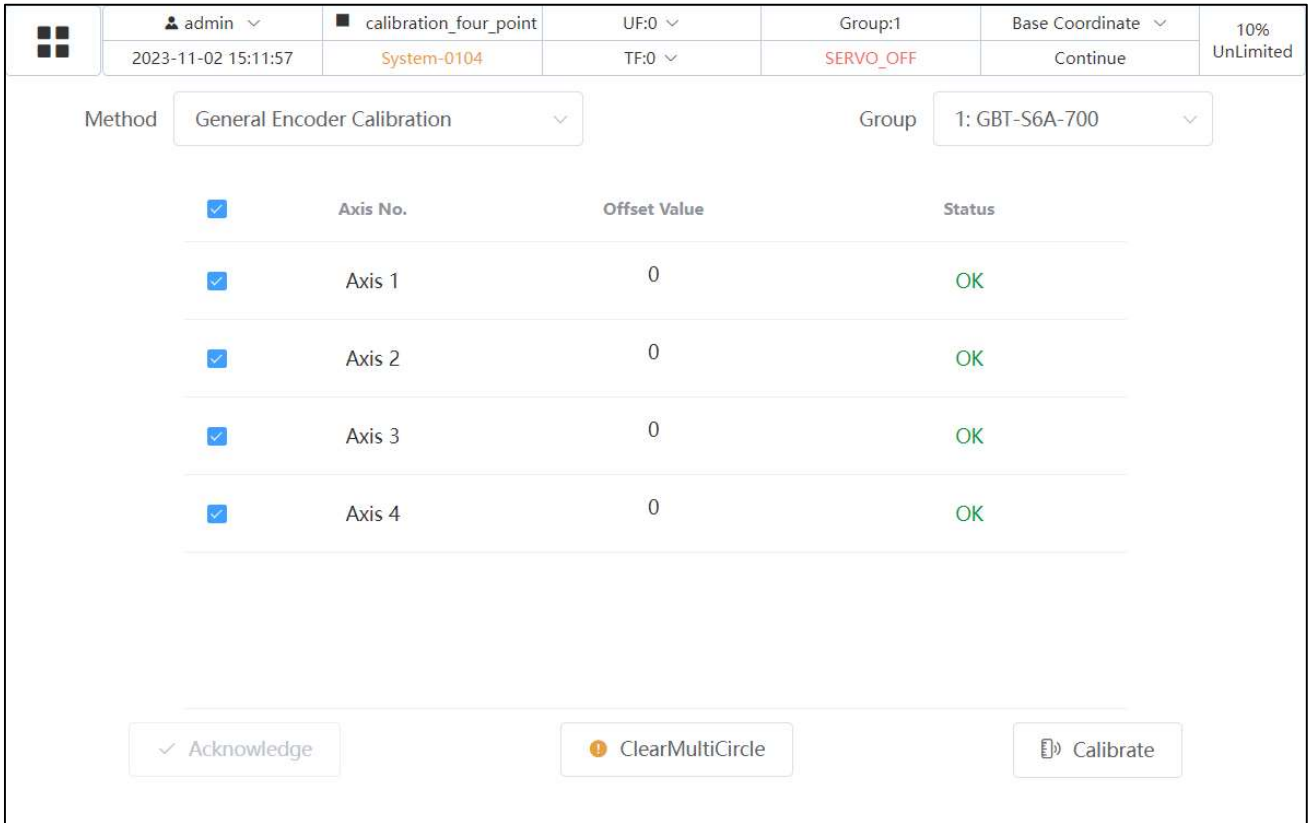
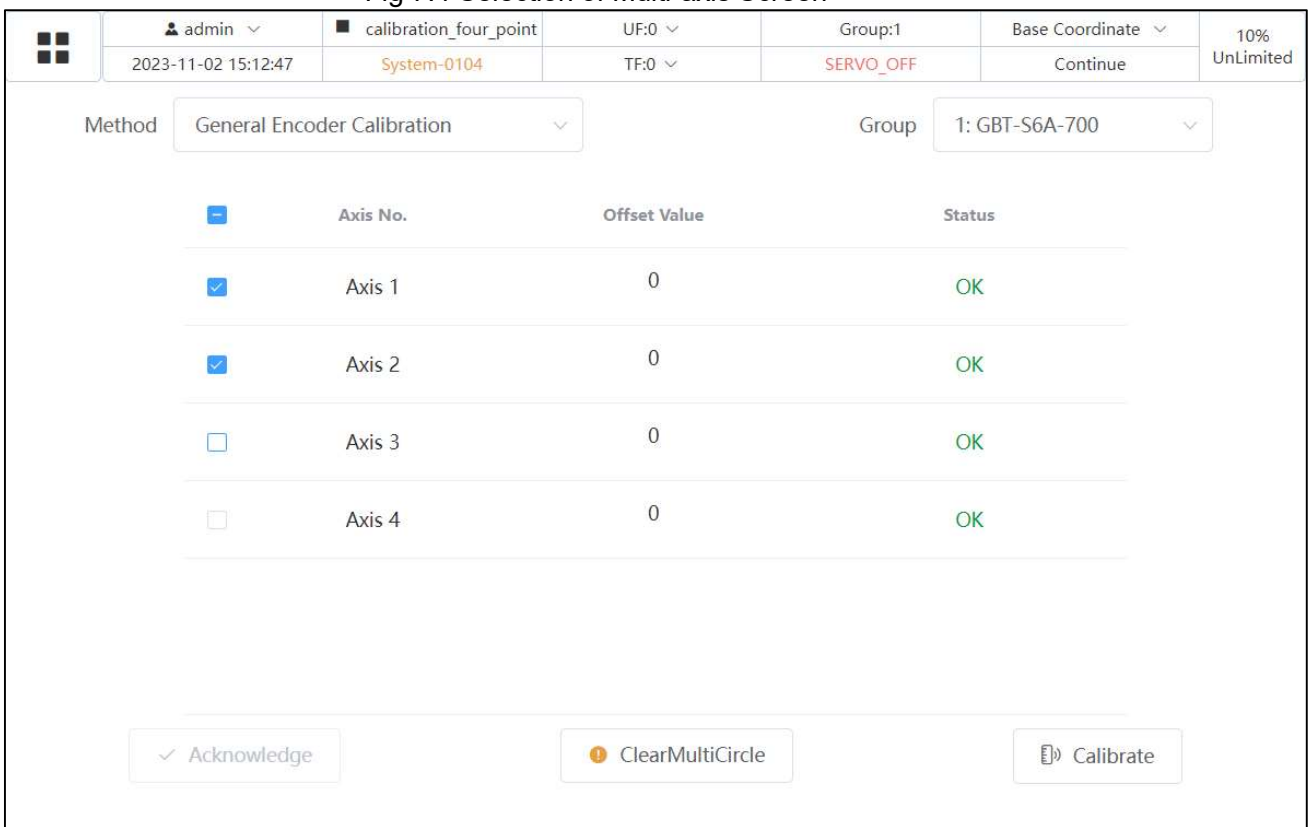

Fig 7.4 Selection of Multi-axis Screen
Fig 7.5 Selection Single-axis Screen
4. Click the box in front of the axis number to select all axes to be calibrated as shown in Fig.7.4; alternatively, select an axis to be calibrated separately as shown in Fig. 7.5.